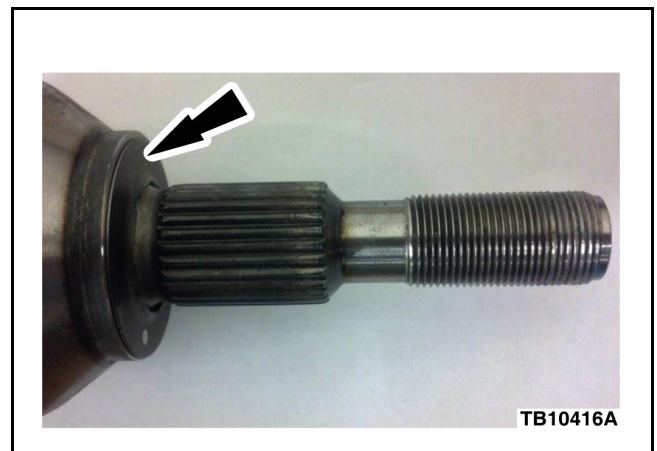

Figure 2 - Article 13-5-24
3. Install one (1) thrust washer over the halfshaft splines until the metal ring is flat against the wheel bearing mating surface. The taper should face outward toward the hub/splines. (Figures 2 and 3)